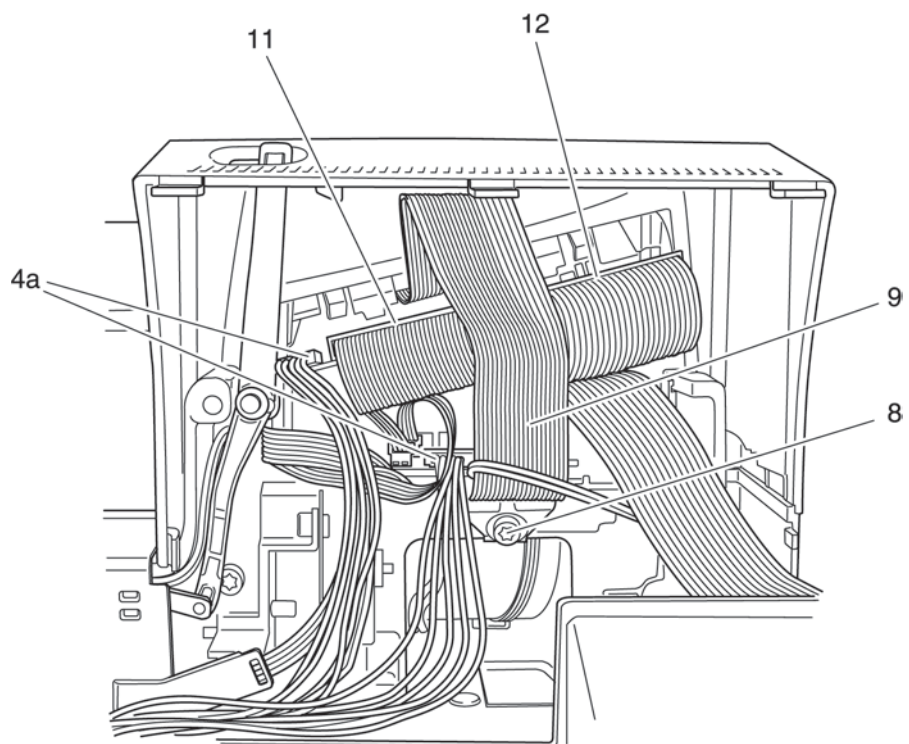

Fig. 31a
- Loosen screw 8 of ground strap 9 (fig. 31a).